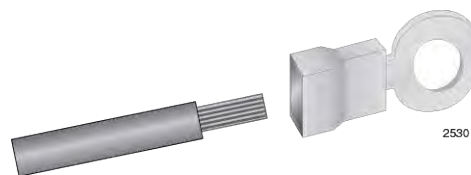

Figure 127. Attaching the Stranded Grounding Wire to the Grounding Terminal
2. Insert the grounding wire into the grounding terminal provided with the power supply and use a crimping tool to secure it to the grounding terminal. See Figure 127,